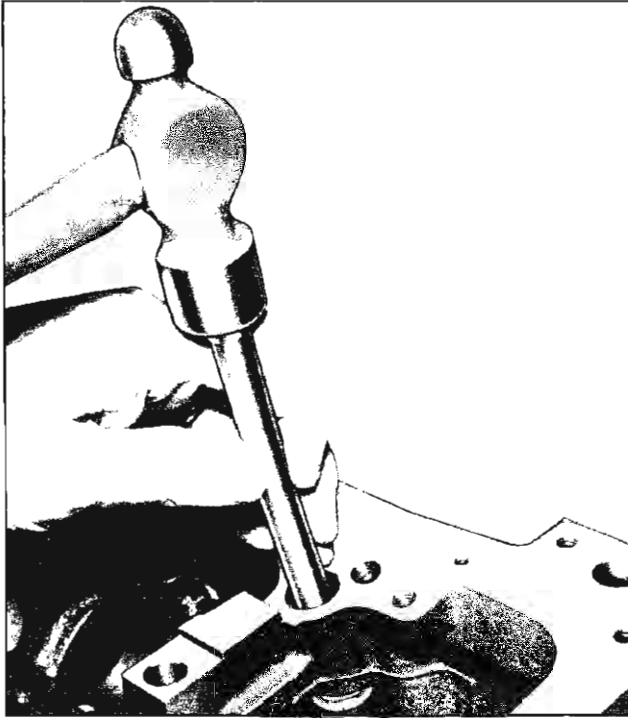

Fig. 67—Removing Distributor Shaft Thrust Washer
2. Using a drift up through bushing bore, drive thrust washer (if installed) out of bore and remove from block (fig. 67).